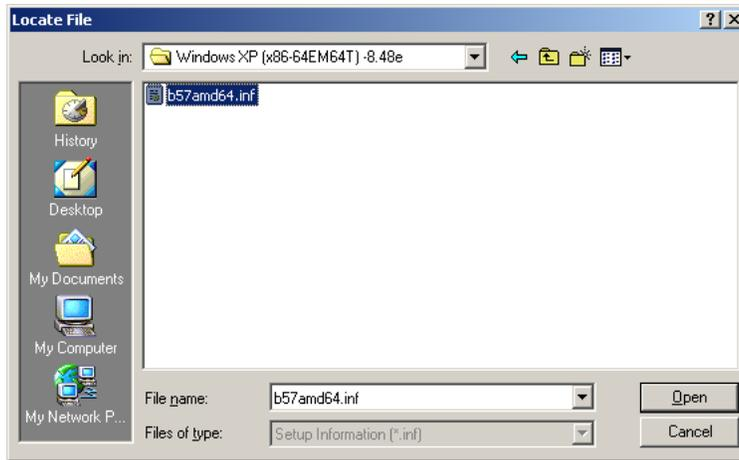

Figure 6-25: Location Browsing Window
Step 10: The Locate File window appears (**Figure 6-25**).